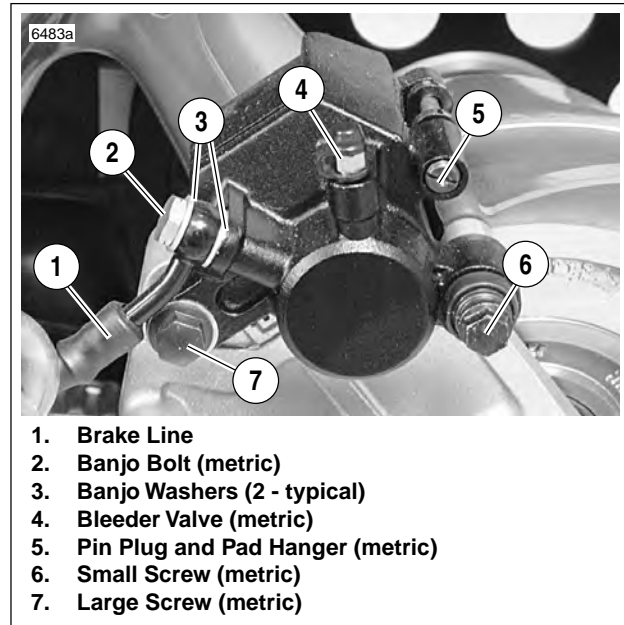
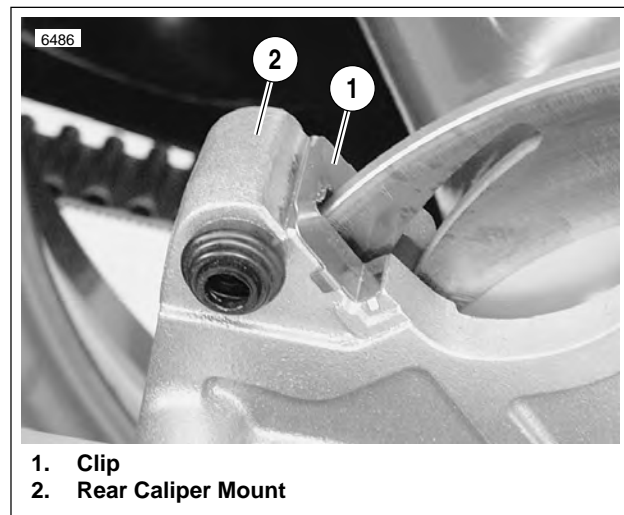

Figure 2-41. Rear Brake Caliper (Typical)
Figure 2-42. Caliper Mount Clip
2. See Figure 2-41. Remove banjo bolt (2) (metric) and two banjo washers (3) to disconnect brake line (1) from caliper. Discard banjo washers.
3. Remove small screw (6) (metric) and large screw (7) (metric) to detach caliper from mount.
4. See Figure 2-42. Remove clip (1) from rear caliper mount (2) if necessary.
1. See Figure 2-41. Remove pin plug and pad hanger (5) (metric) to free brake pads.
- See Figure 2-42. Install caliper mount clip (1) if removed.
- See Figure 2-41. Install caliper assembly on caliper mount. Brake pad surfaces must face rear brake rotor.
- Install large caliper screw (7) (metric). Tighten to 18-22 ft-lbs (24-30 Nm)
- Install small caliper screw (6) (metric). Tighten to 14.5-18 ft-lbs (20-24 Nm).